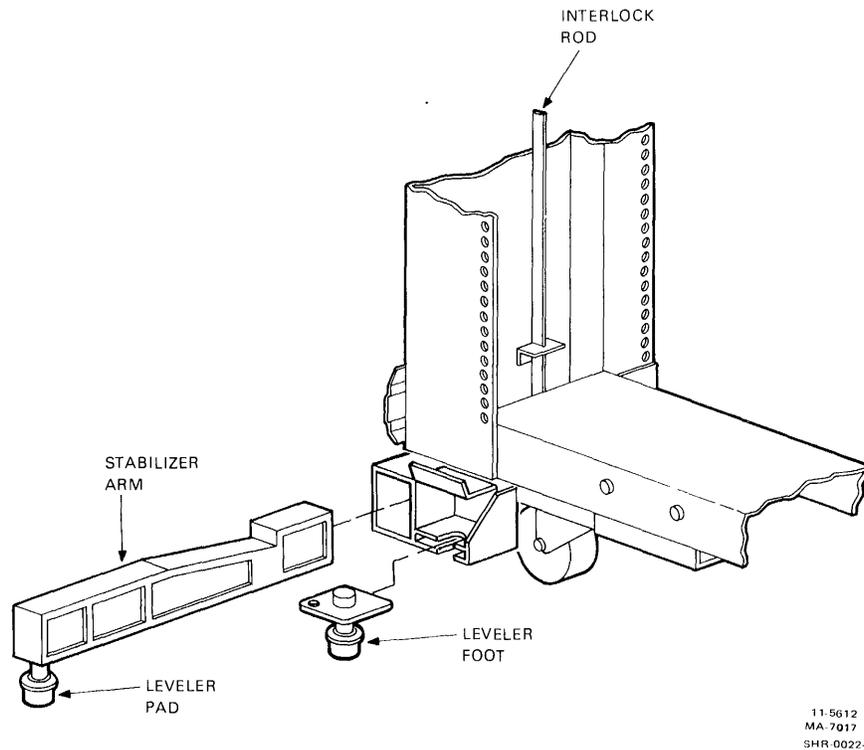

Figure 2-5 Location of Stabilizer Arm and Leveler Feet
3. Raise the interlock rods on each side of the cabinet. Remove the two stabilizer arms from the stabilizer sleeve assemblies (Figure 2-5).
6. Install the leveler feet in the lower corners of the cabinet frame (Figure 2-5).